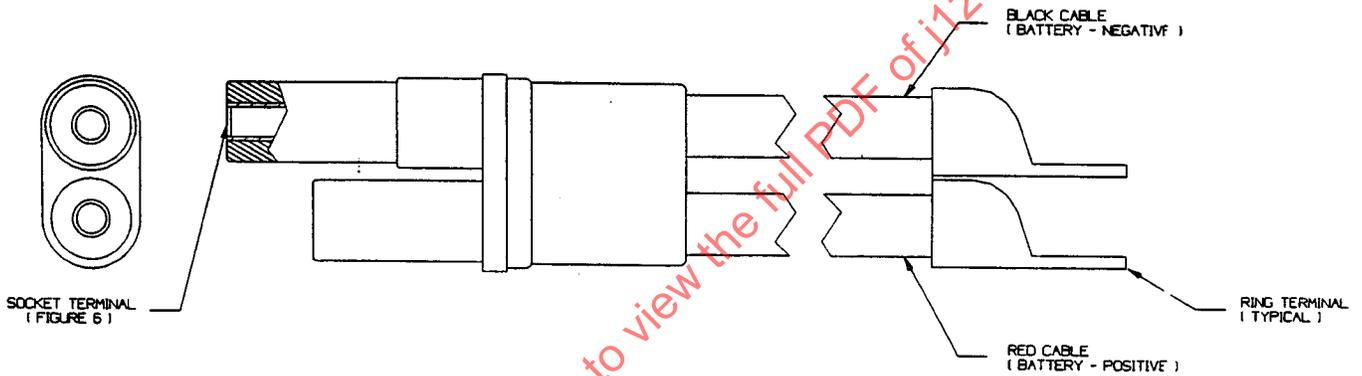

FIGURE 4—PLUG ASSEMBLY (MACHINE TO BATTERY CART)
- 3.3.2 The configuration shown in Figure 4 is used when starting a machine equipped with a receptacle from an external power source such as a battery cart.